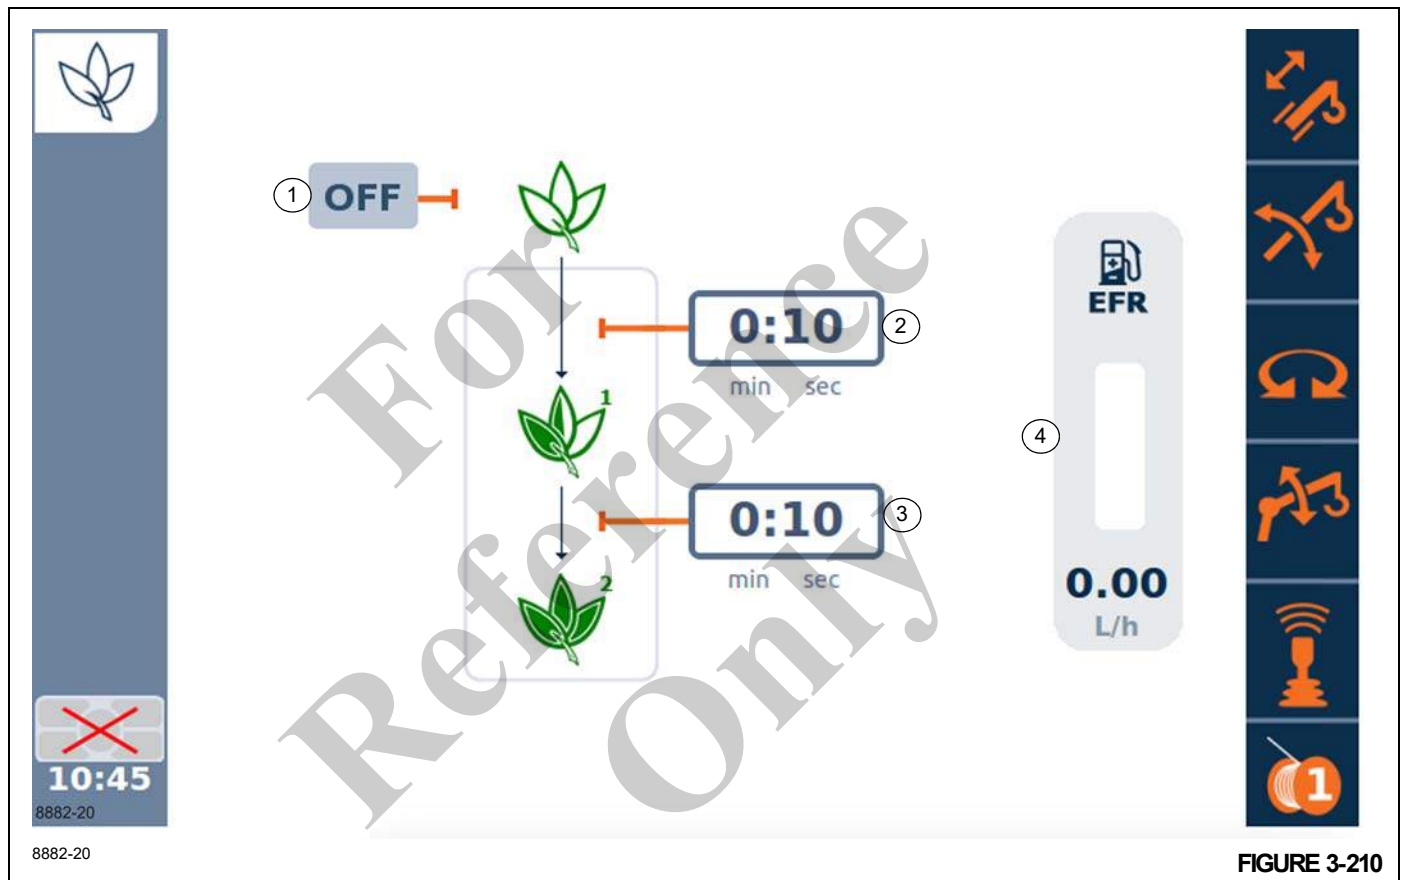

FIGURE 3-210
The OFF button (1), (Figure 3-210) enables/disables ECO mode. When turned OFF there is no RPM reduction. The engine RPM follows the increment / decrement switch and throttle pedal.